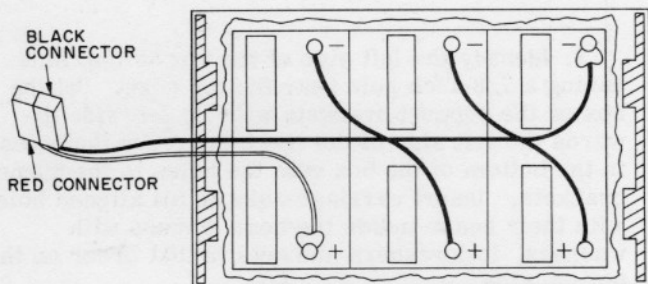

Figure 10. Battery Connections
8. Carefully set the batteries inside the bag, as shown in Fig. 10, observing the polarity markings. Make sure the sides of the bag remain above the top surfaces of the batteries in equal amounts. (It may help to tape the upper edges of the bag to the box's sides temporarily to permit easy insertion of the batteries.)
10. Connect the battery cables in accordance with Fig. 10. Observe the clamp polarity markings. Coat the terminals after the connections are made with a thin film of Battery Terminal Grease. Make sure all surfaces are coated!